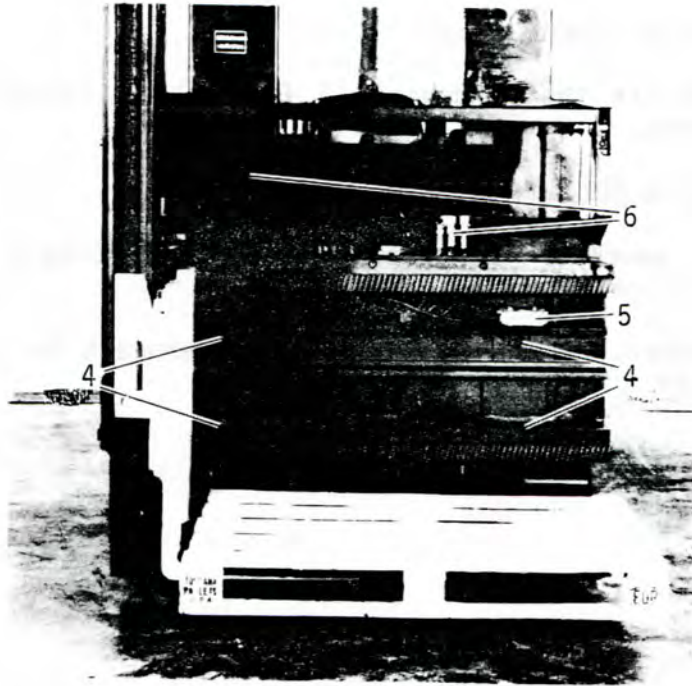
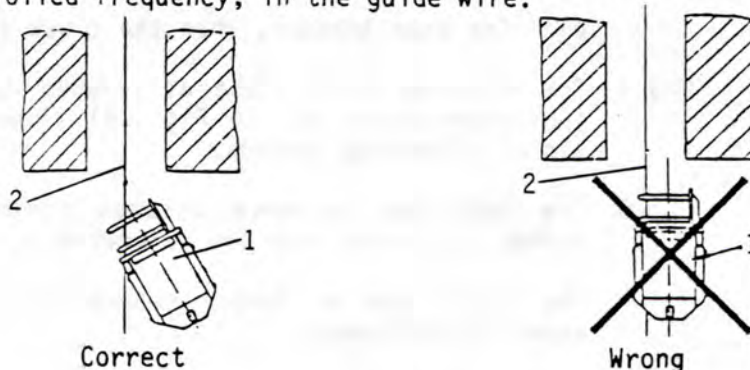
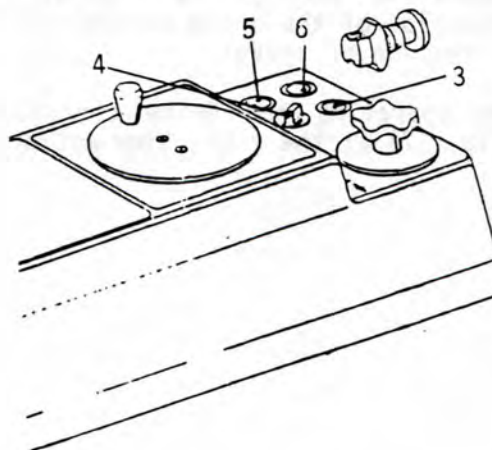

Fig. 6 Mounting Articulated Reach Unit
Fig. 15 Tracking
Fig. 16 Tracking
- 3.2 Driving with manual steering selected drive the truck (1 Fig. 15) towards the guide wire (2 Fig. 15) at an angle until the indicator 'Guidance Available' (3 Fig. 16) illuminates.
- 3.3 Before the leading antenna crosses over the guide wire, turn the Automatic Steer ON/OFF switch (4 Fig. 16) to 'ON'. The indicator lamp 'Guidance Switched On' (5 Fig. 6) will illuminate. It is not necessary to bring the truck to a halt (when changing direction). Tracking can be initiated while the truck is moving forward or in reverse.
- 3.4 The tracking takes place at reduced speed. The indicator lamp 'Guidance Locked On' (6 Fig. 16) illuminates and the acoustic signal 'Tracking' sounds.
After the truck has travelled approx 1.4m the tracking process is concluded automatically. The indicator lamp (6 Fig. 16) 'Guidance Locked On' is extinguished and the acoustic tracking signal is silenced.